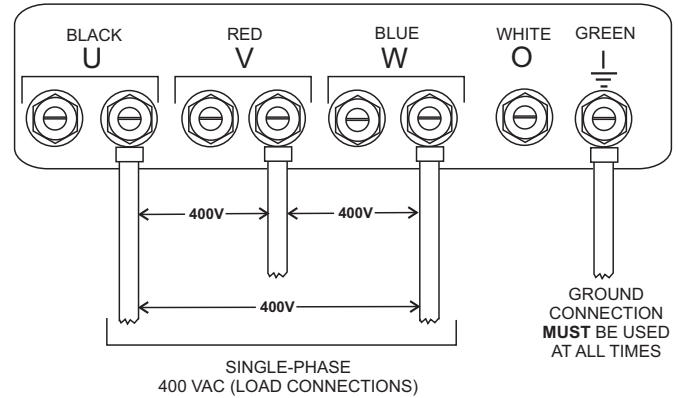

Figure 28. UVW Terminal Lugs 1Ø-400V Connections
2. Connect the load wires to the UVW terminals as shown in Figure 28.